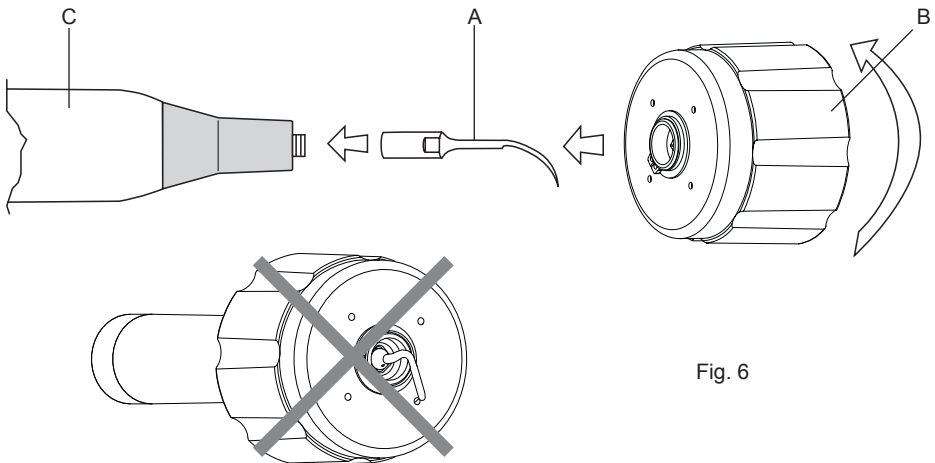

Fig. 6
- 3 Screw the chosen insert onto the scaler handpiece until it bottoms out (Fig.6 - Ref.A).
- To use the torque wrench properly (Fig.6 - Ref.B) proceed as follows:
- ⚠ **WARNING:** Do not grip the end part of the handpiece and/or the cord, but only the plastic casing (Fig.6 - Ref.C) and do not turn while fastening the insert in place.